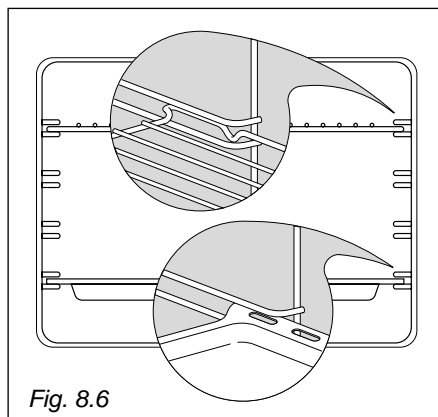

Fig. 8.6
- Position the shelf and tray as per Fig. 8.6.